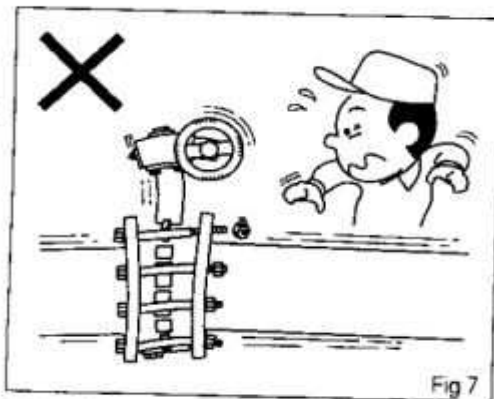

Fig 7
- **Installation place** : Application to heavy-vibrant positions to be avoided. To keep enough space for maintenance work. (Fig 7)